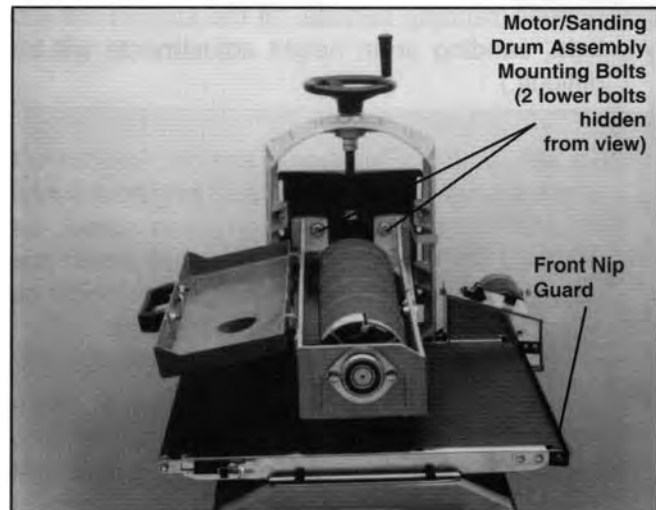

Figure 8
3. **Loose Motor/Sanding Drum Assembly Mounting Bolts.** (See Figure 8.) Check the tightness of the four (4) bolts, 2 upper and 2 lower, and tighten as needed.